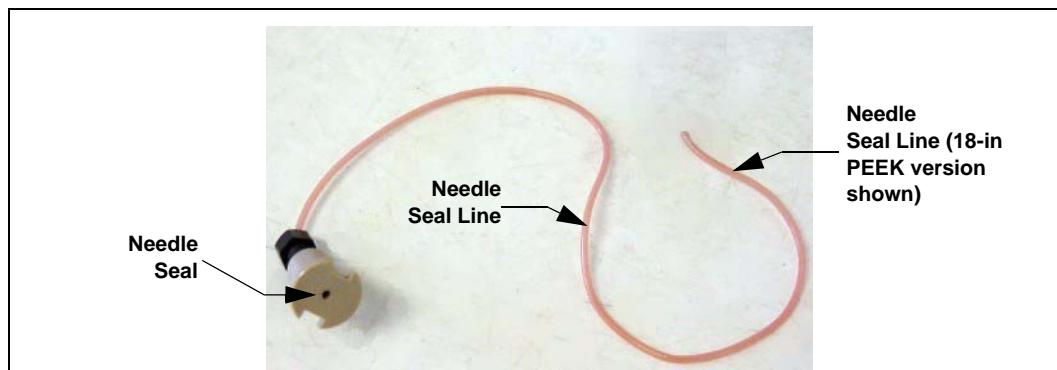

Figure 5-16. Needle Seal Assembly
6. Thread the new needle seal line (see Figure 5-16) down through the top of the inject port.